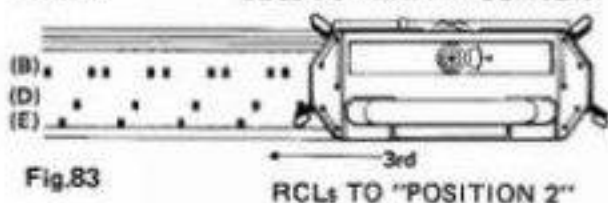

Fig.83
Push back into position (D) from (E) every 4th holding needle, and push forward from (B) to (E) every 4th needle starting with extreme end needle on the right. (Fig.83)